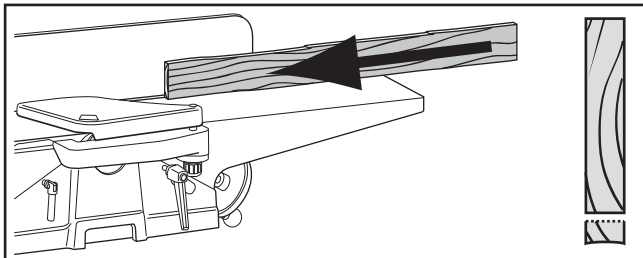

Figure 41. Edge jointing on a jointer.
1. Edge joint the concave edge of the 2x4 flat on a jointer, as shown in **Figure 41**.